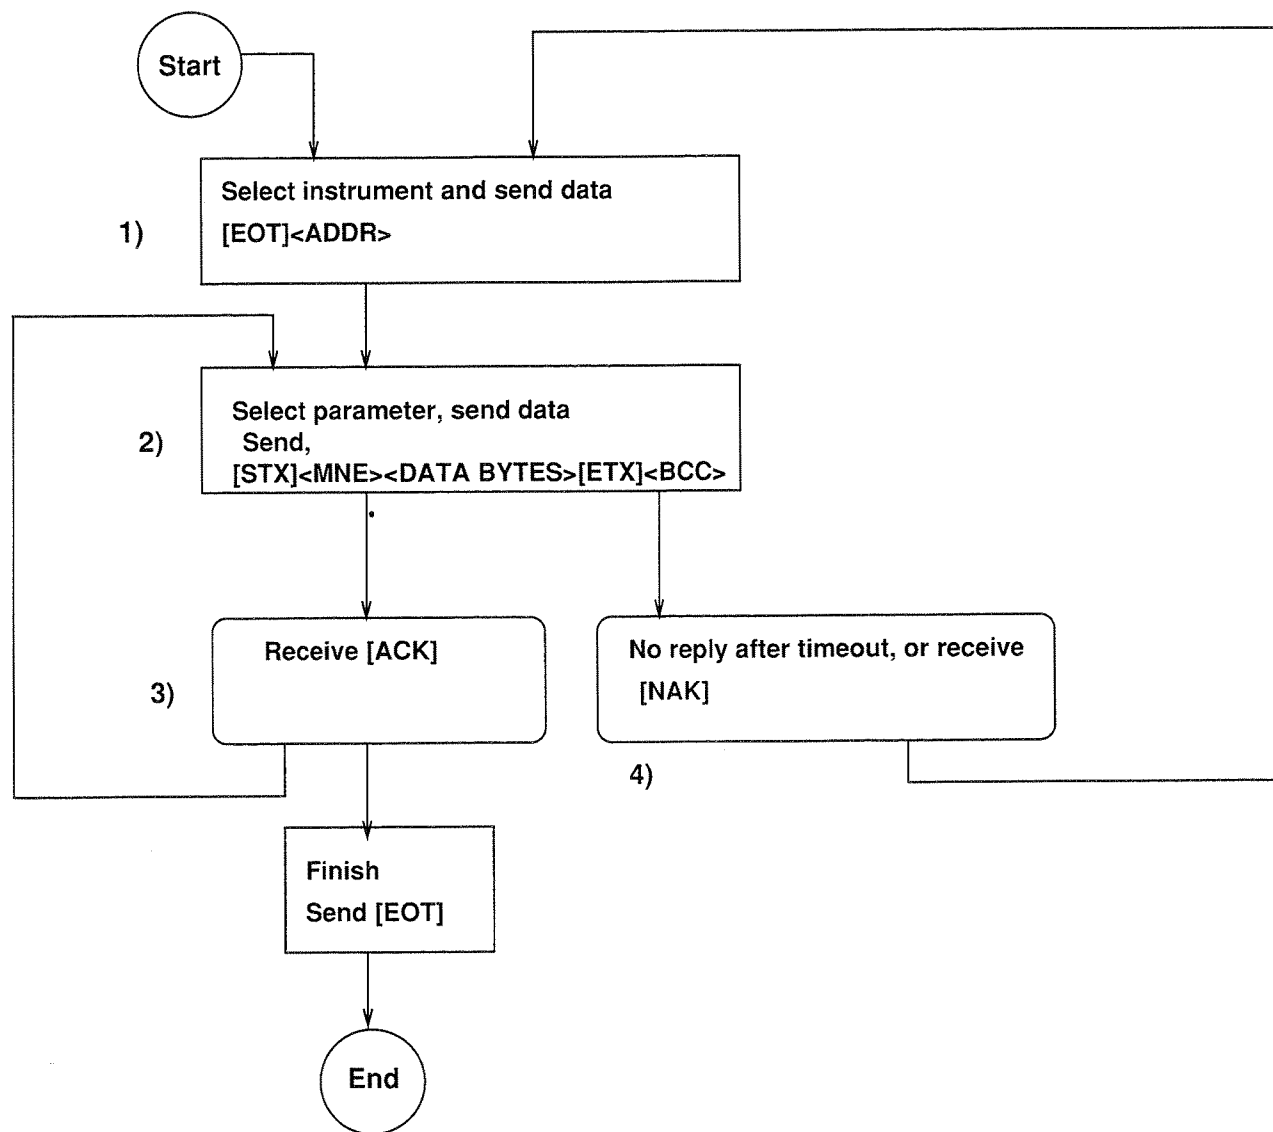

Figure 3: Writing data to the 900 series
The sequence for writing data to the 900 is shown in figure 3.
where (GID) denotes the group number, and (UID) the unit number (see section 2.4.1). This sequence selects the instrument from all others on the network. (Step 1 in figure 3, <ADDR> is the (GID) (GID) (UID) (UID) sequence).
where the data bytes are as described in section 2.4.5. <BCC> is a block sum check that can be used to validate the data. It is computed by XORing (exclusive or) all the characters after and excluding [STX] and up to and including [ETX]. (Step 2 in figure 3, where <MNE> is the (C1) (C2) sequence).
- Verify that (C1) (C2) or (CN) (C1) (C2) command characters are a valid mnemonic that may be written to, if so ...
- send an [ACK] as a reply (step 2 in figure 3).
If any of the above steps fail then a [NAK] will be sent by the 900, (step 4 in figure 3).
On receiving an [ACK] the data has been successfully written. To send more data to another parameter (or the same one) another data message may be sent (step 2 in figure 3).
To terminate the connection an [EOT] should be sent to the 900 (step 5 in figure 3).